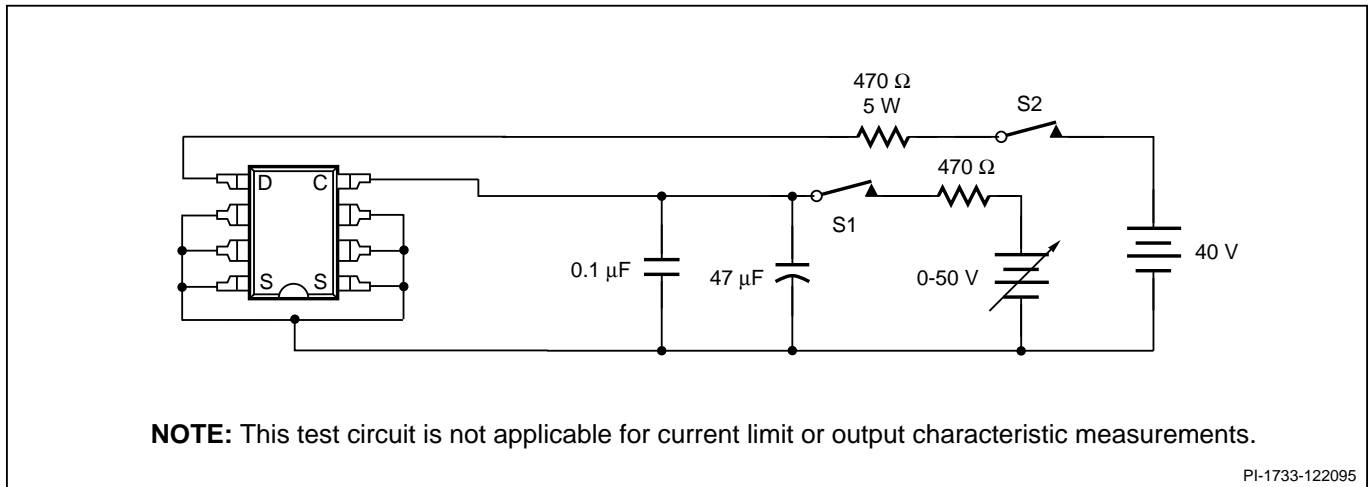

Figure 12. TOPSwitch General Test Circuit.
(Unless Otherwise Specified) See Figure 12 SOURCE = 0 V $T_J = -40$ to $125$ °C
- B. The breakdown & leakage measurements can be accomplished by using the *TOPSwitch* auto-restart feature. The divide-by-8 counter in the auto-restart circuitry disables the output MOSFET from switching in 7 out of 8 cycles. To place the *TOPSwitch* in one of these cycles, the following procedure can be carried out using the modified circuit of Figure 12:
The following precautions should be followed when testing TOPSwitch by itself outside a power supply. The schematic shown in Figure 12 is suggested for laboratory testing of TOPSwitch.